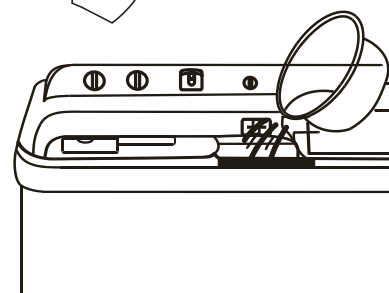

Figure 2
- 2、Fill water and add solved powder detergent until water reaches a suitable level. (Figure 2)